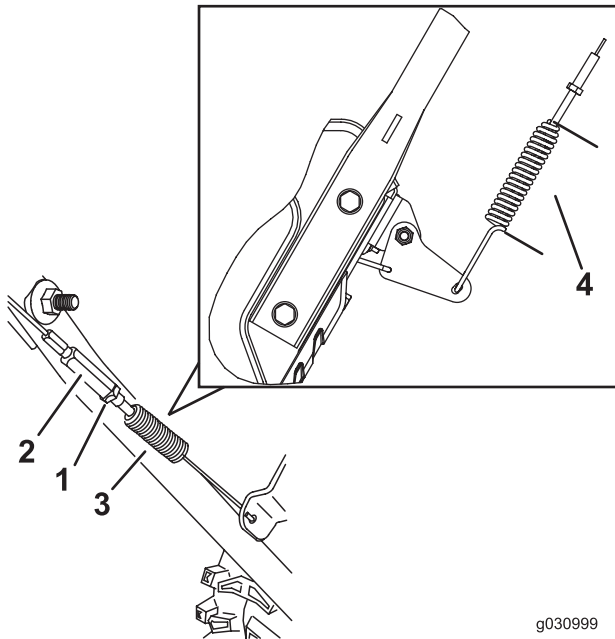

Figure 37
3. Loosen or tighten the turnbuckle to adjust spring length to 5.5 cm (2.18 inches) (Figure 37).
4. Tighten the jam nut (Figure 37), ensuring there is slight tension on the cable.